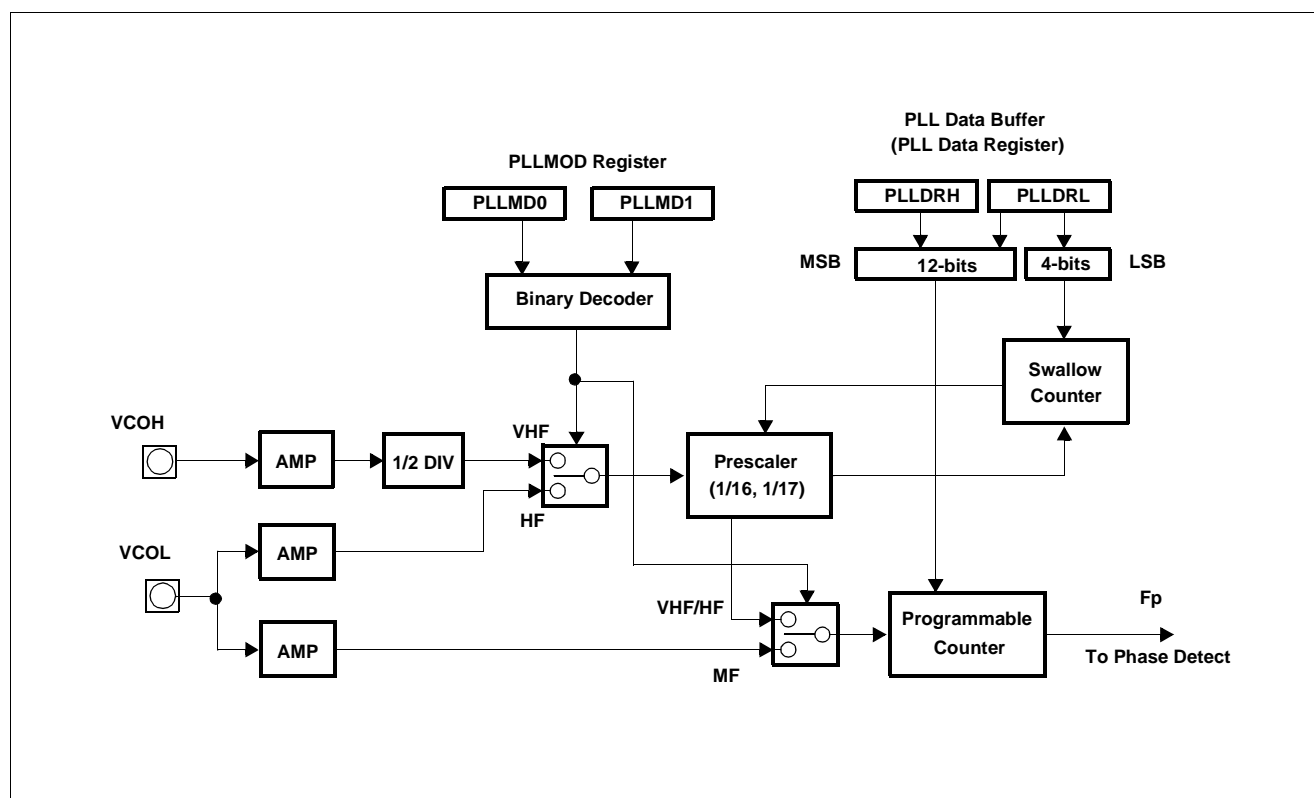

Figure 4-36 Input Selection Circuit and Programmable Divider Configuration
Figure 4-36 shows the input selection circuit and programmable divider configuration.
As shown in Figure 4-36, the input selection circuit consists of a VCOH pin, VCOL pin, and two input amplifiers. The programmable divider consists of a prescaler(1/16, 1/17), swallow counter (SC), programmable counter (PC), and frequency division selection switch.
The programmable divider divides a frequency according to the values of PLL data register using a swallow counter and a programmable counter. Figure 4-36 shows the input pins (VCOH and VCOL) and frequency division systems. The content of PLL mode register controls the input pin and the frequency division system for the programmable counter. The configuration and functions of the PLL mode select register are described in *PLL Mode Select Register Configuration and Functions* section.